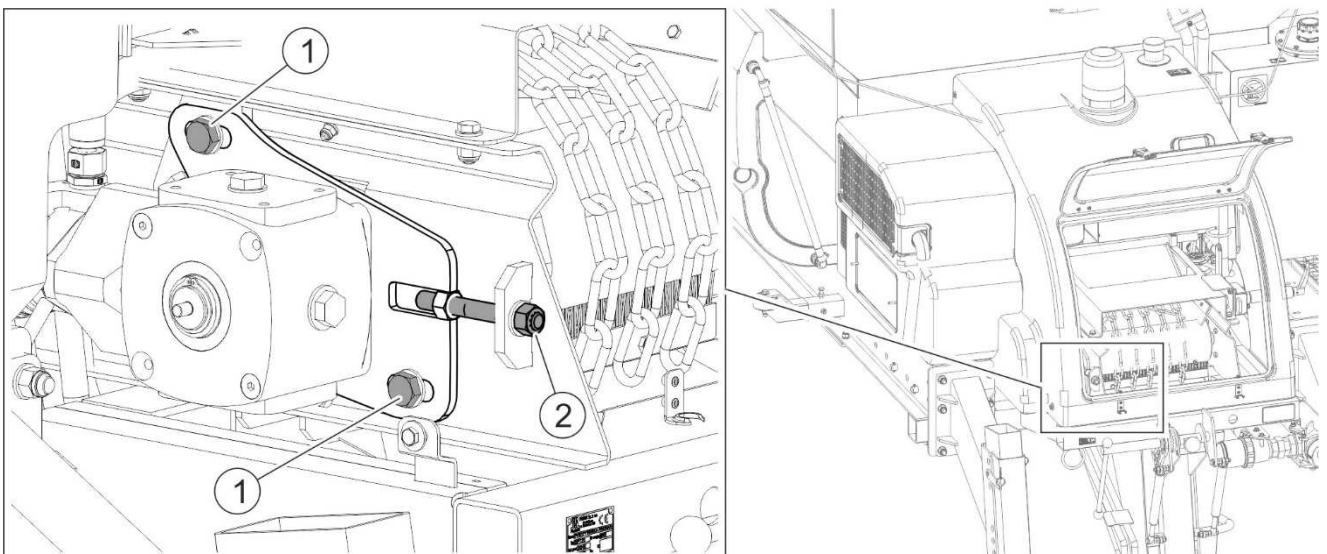

FIGURE 5.10 Adjustment of drive roller
(1) - locking bolts; (2) - adjusting bolt
If the conveyor belt is shifted sideways to the edge of the conveyor drive roller (FIGURE 5.10), make proper adjustment of the roller. The adjustment is made only on one side of the conveyor using bolt (2) by changing the position of the roller drive transmission bracket. Start the sand spreader's engine. Activate "Unloading" function in "Counters" menu on the control panel. A detailed description can be found in section 4.8 *UNLOADING*. Loosen locking bolts (1) and position the belt in the middle of the roller by means of adjusting bolt (2). During the adjustment, make one turn of bolt (2) and wait for some time to see the effect of the adjustment. Repeat the activity until moving conveyor belt is positioned in the middle of the conveyor roller. After adjustment, disengage conveyor drive and tighten locking bolts (1).